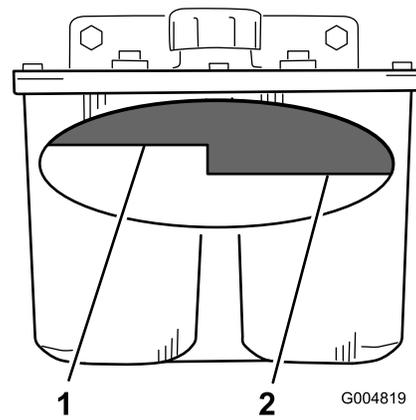

Figure 72
2. Clean the area around filler neck of hydraulic tank (Figure 72).
3. Remove the cap from the filler neck. Look inside to check if there is fluid in the reservoir (Figure 72).
Note: The fluid level should be to the top of the hot level of the baffle, when the fluid is hot (Figure 72).